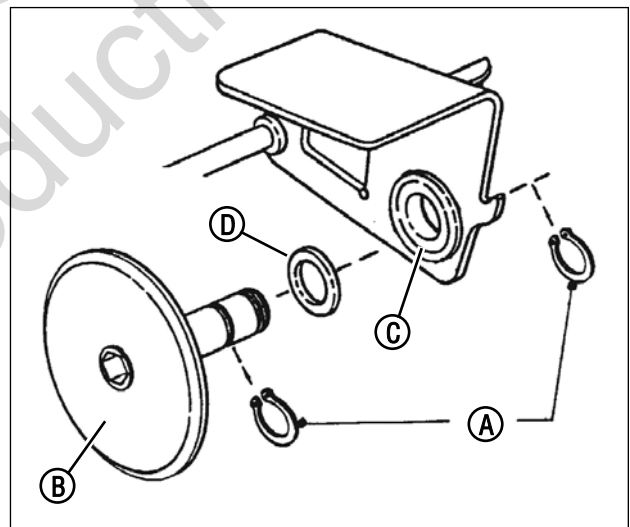

Figure 31: Replacing the driven disc
- Remove the two snap rings (A, Figure 31) which secure the rubber driven disc (B) to the driven disc assembly.
- Remove both snap rings (A, Figure 31) that secure the rubber driven disc (B) to the thrust plate.
- Drive out the existing bearing (C).